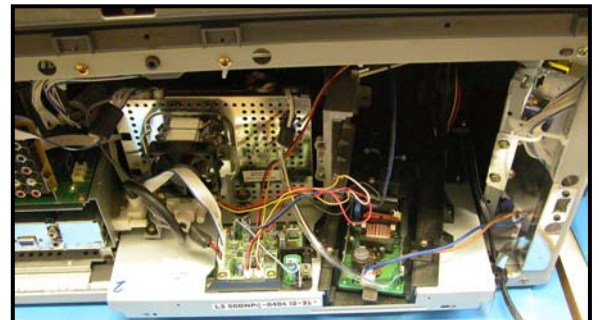

Figure 1
3. Pull back the Light Engine Assy slightly as displayed in figure 1.